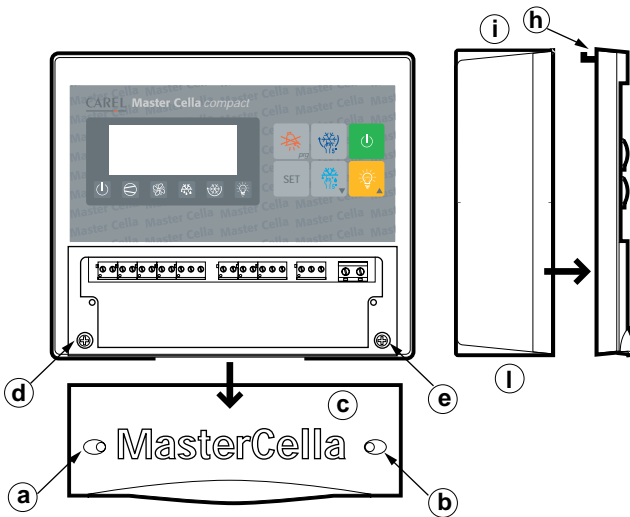

Fig. 1.2.1
In reference to Fig. 1.2.1 and the corresponding parts:
2. Unscrew the two frontal screws (Fig. 1.2.1, **a**, **b**) and take out the central door (part **c**).